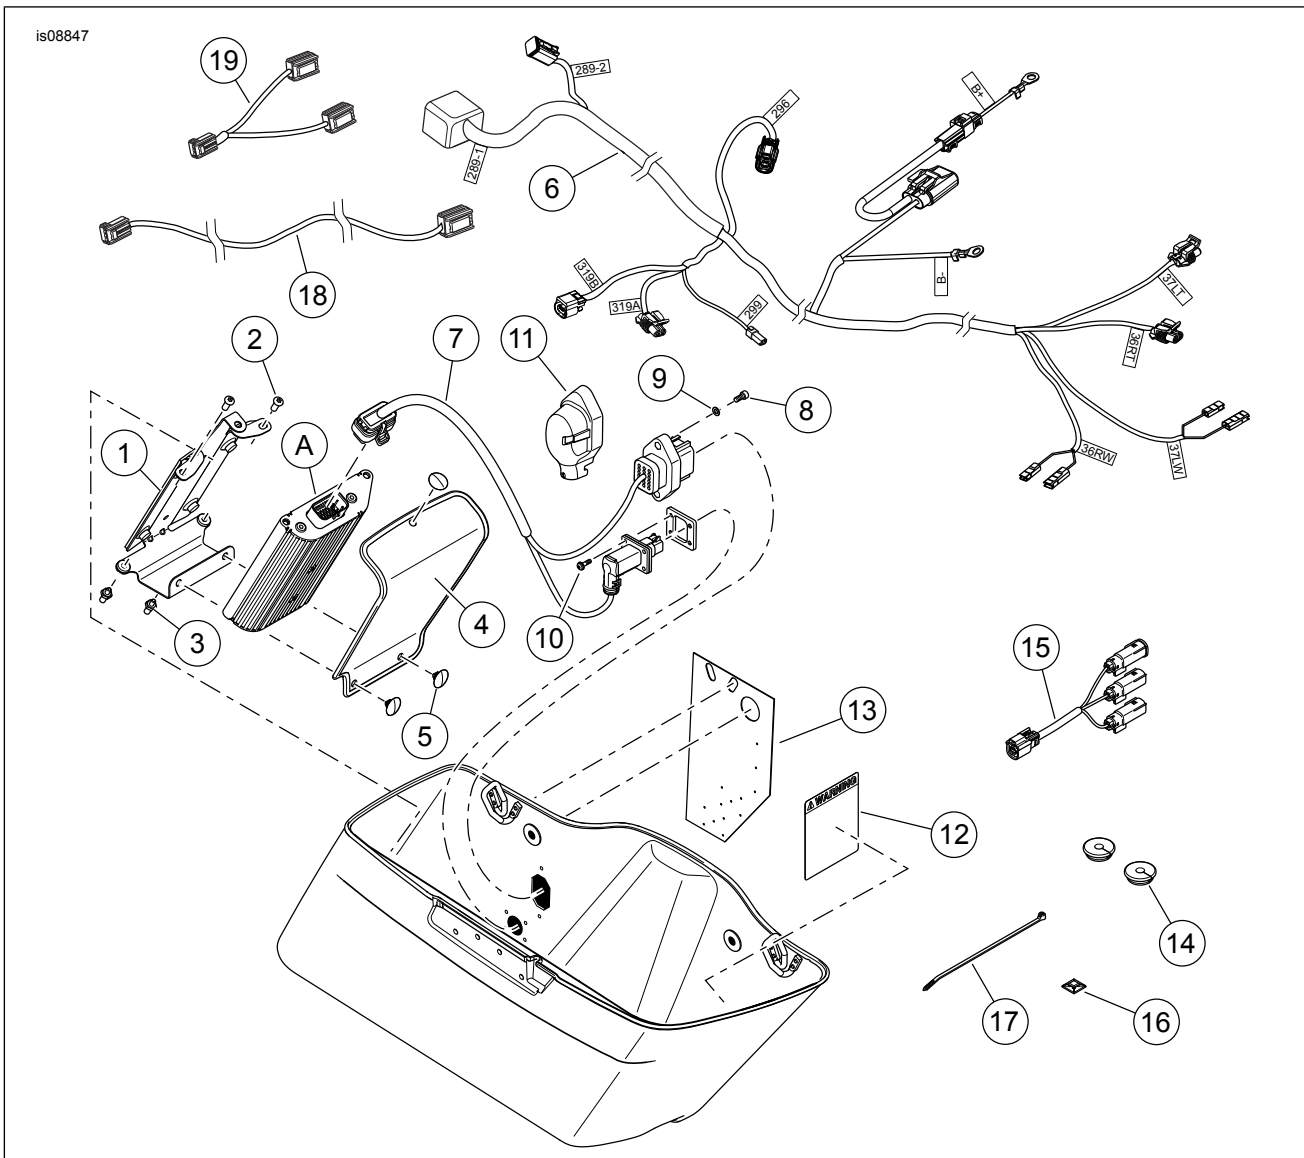

Figure 17. Service Parts, Amplifier Installation Kit For Boom! Audio Fairing Lower Speakers
5. See Figure 17. Attach the **new** saddlebag capacity label (12) over the existing label in the right saddlebag. Note the revised load limit for the right saddlebag due to the amplifier installation.